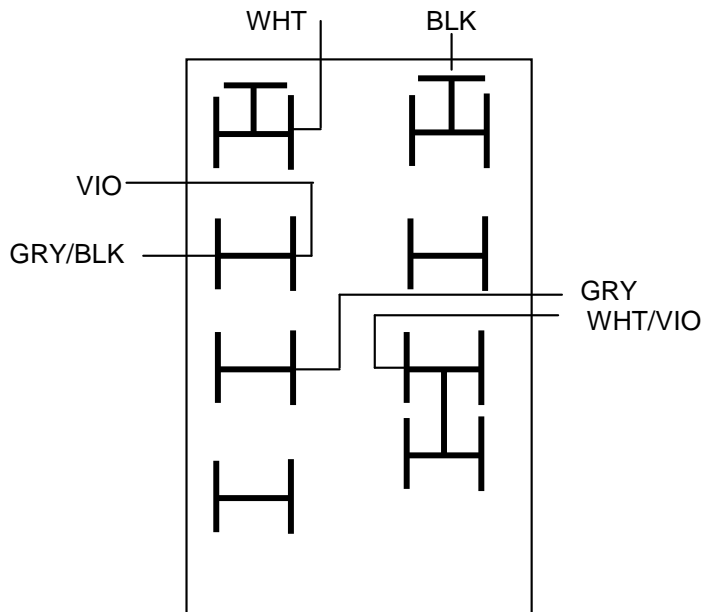

Fig. 7 Wired for 220VAC Operation
- Step 1: Wire transformer terminal block for 220V operation as shown in Figure 7